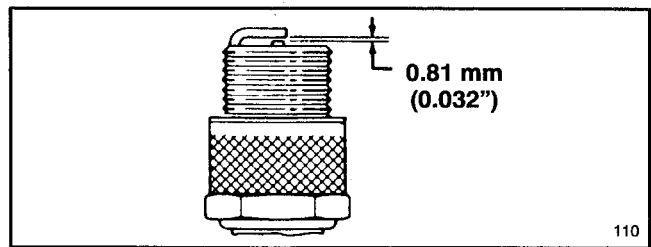

Figure 20
3. Set air gap at 0.81 mm (0.032") (Fig. 20). Install correctly gapped spark plug and gasket seal. Tighten plug firmly to 13.6 N·m (10 ft-lb).